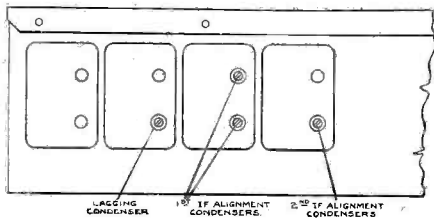

Fig. 2. Showing the location of the i-f. alignment condenser and lagging condenser adjusting screws
- (1) Connect 175 kc. output of oscillator to the grid of the 1st detector tube. Align 2nd i-f. condenser. (Fig. 2.)
- (2) With oscillator as above align both 1st i-f. condensers. (Fig. 2.)
- (3) Recheck adjustment (1).
- (4) Set dial and condenser gang at 100 and connect the 1,400 kc. output of the oscillator to the grid of the 1st detector.